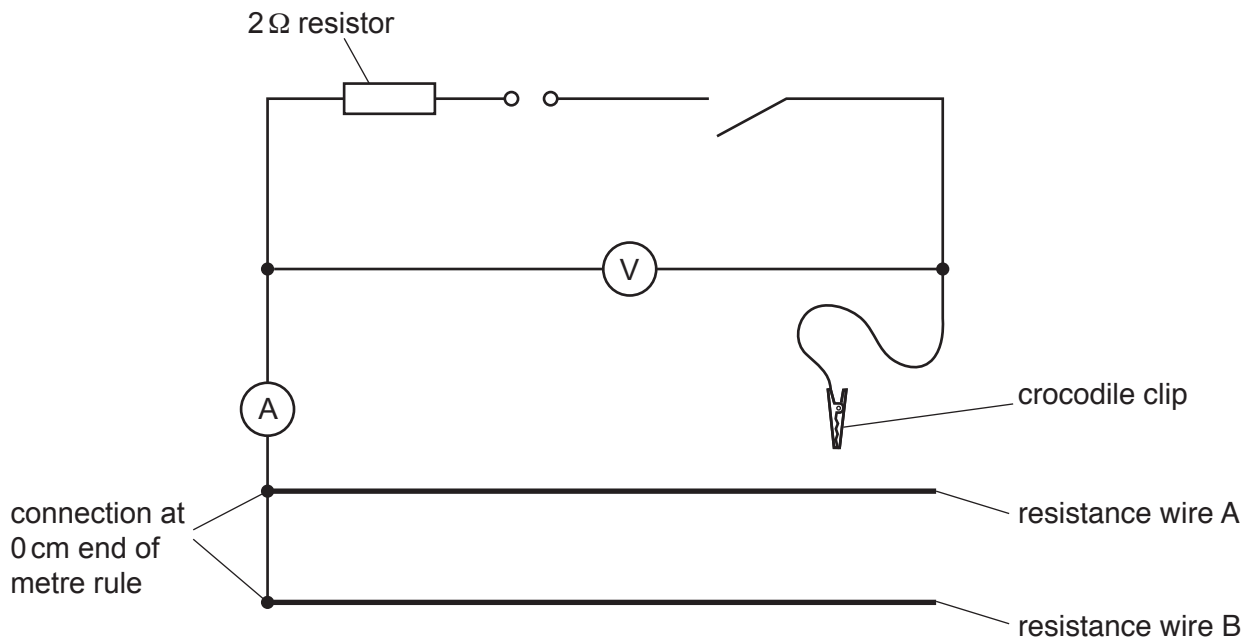

Fig. 2.1
- (vii) Sufficient connecting leads to set up the circuit shown in Fig. 2.1.
2. The wires must be fixed to the metre rule in such a way as to allow candidates to connect a crocodile clip to points between the 45.0 cm and 95.0 cm marks. The wires at the 0 cm end of the metre rule should be connected to the ammeter, as shown in Fig. 2.1.
3. The circuit is to be set up for candidates as shown in Fig. 2.1. The crocodile clip must not be connected to either resistance wire.
Ensure that the circuit is connected as shown in Fig. 2.1. Check that the circuit is working and disconnect the crocodile clip from the resistance wire. Open the switch.